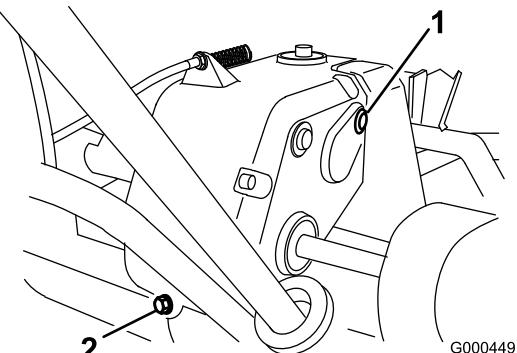

Figure 30
2. Remove the check/fill plug from the right-hand side of the transmission (Figure 30).